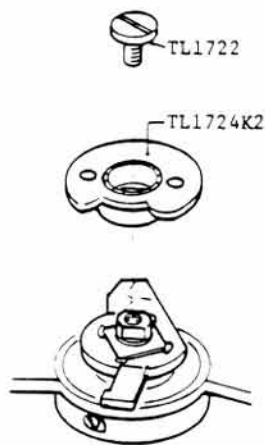

Fig. 7
3. Slip TL1724K2 Front curtain cam on to TL1621 Shaft of Shutter curtain drum assembly and tighten TL1722 Screw as shown in Fig. 7.